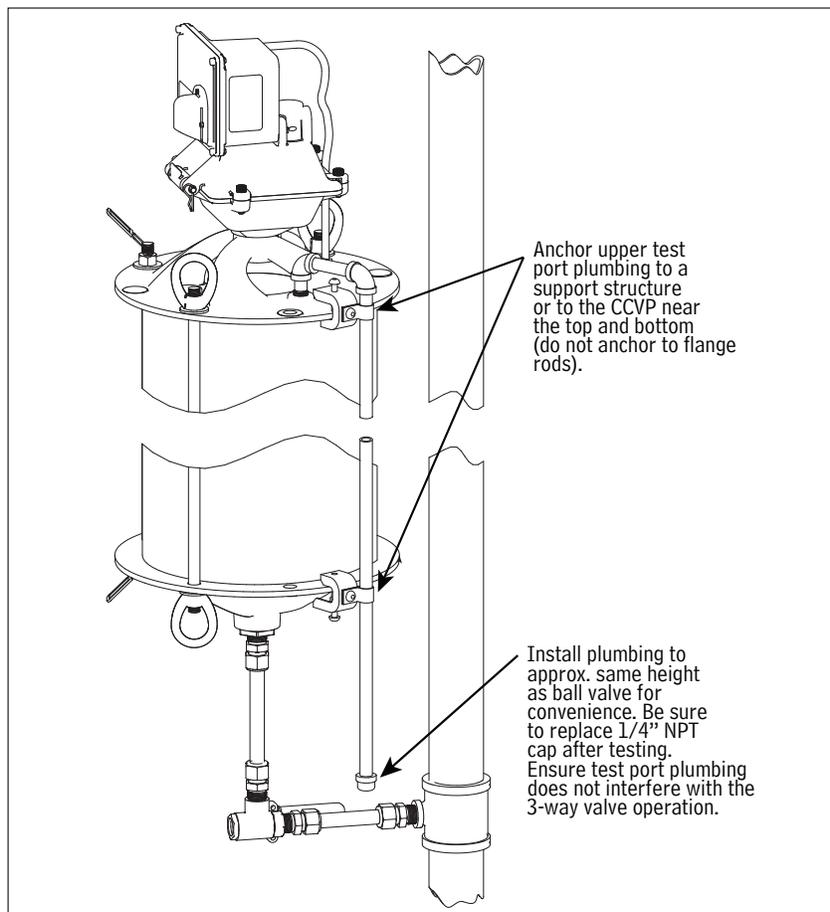

Figure 13. Optional Lowering of Upper Test Port
1. Refer to Figure 13 to install optional piping necessary to lower the CCVP's operability (upper) test port.